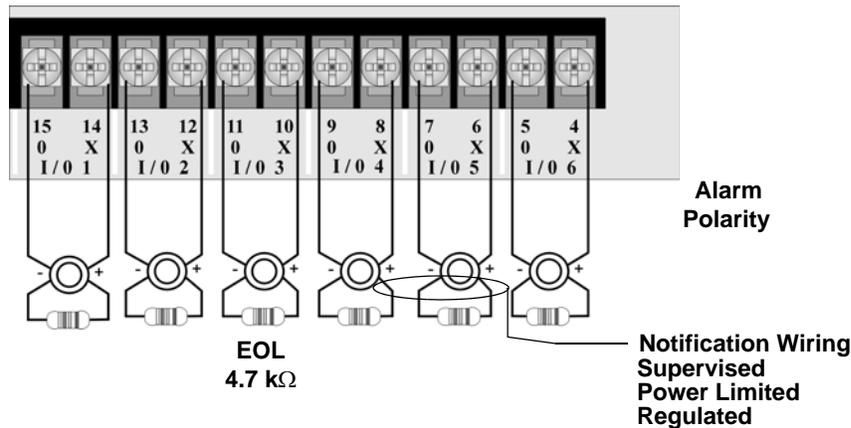

Figure 3.8 Class B Notification Appliance Circuit Wiring
1. Wire Class B Notification appliances as shown in Figure 3.8.